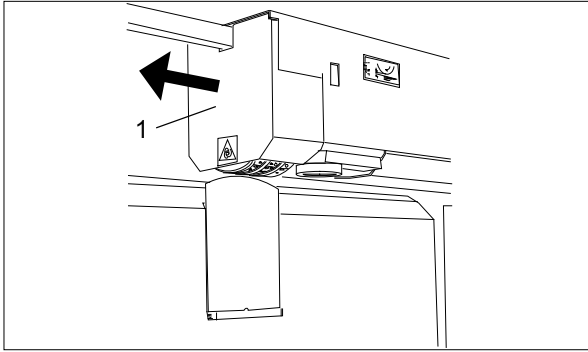

Fig. 21 Suction wheel cover
1. Pull off the cover (Fig. 21/1).
6. Replace the cover (Fig. 21/1).